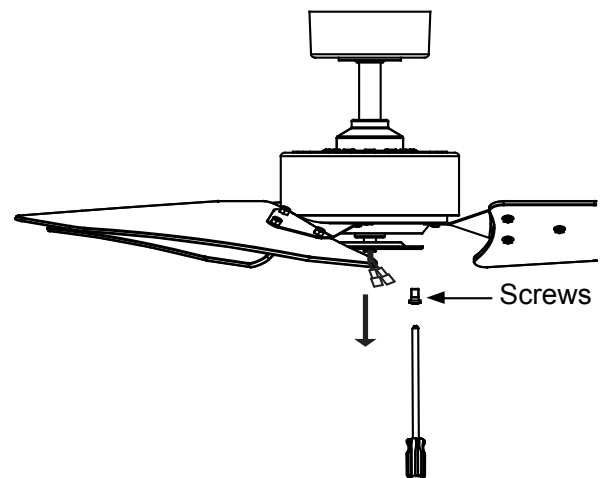

Fig. 18
**Step 1.** Remove one screw from the bracket below fan motor assembly and loosen but do not remove the other two screws. (Fig. 18)